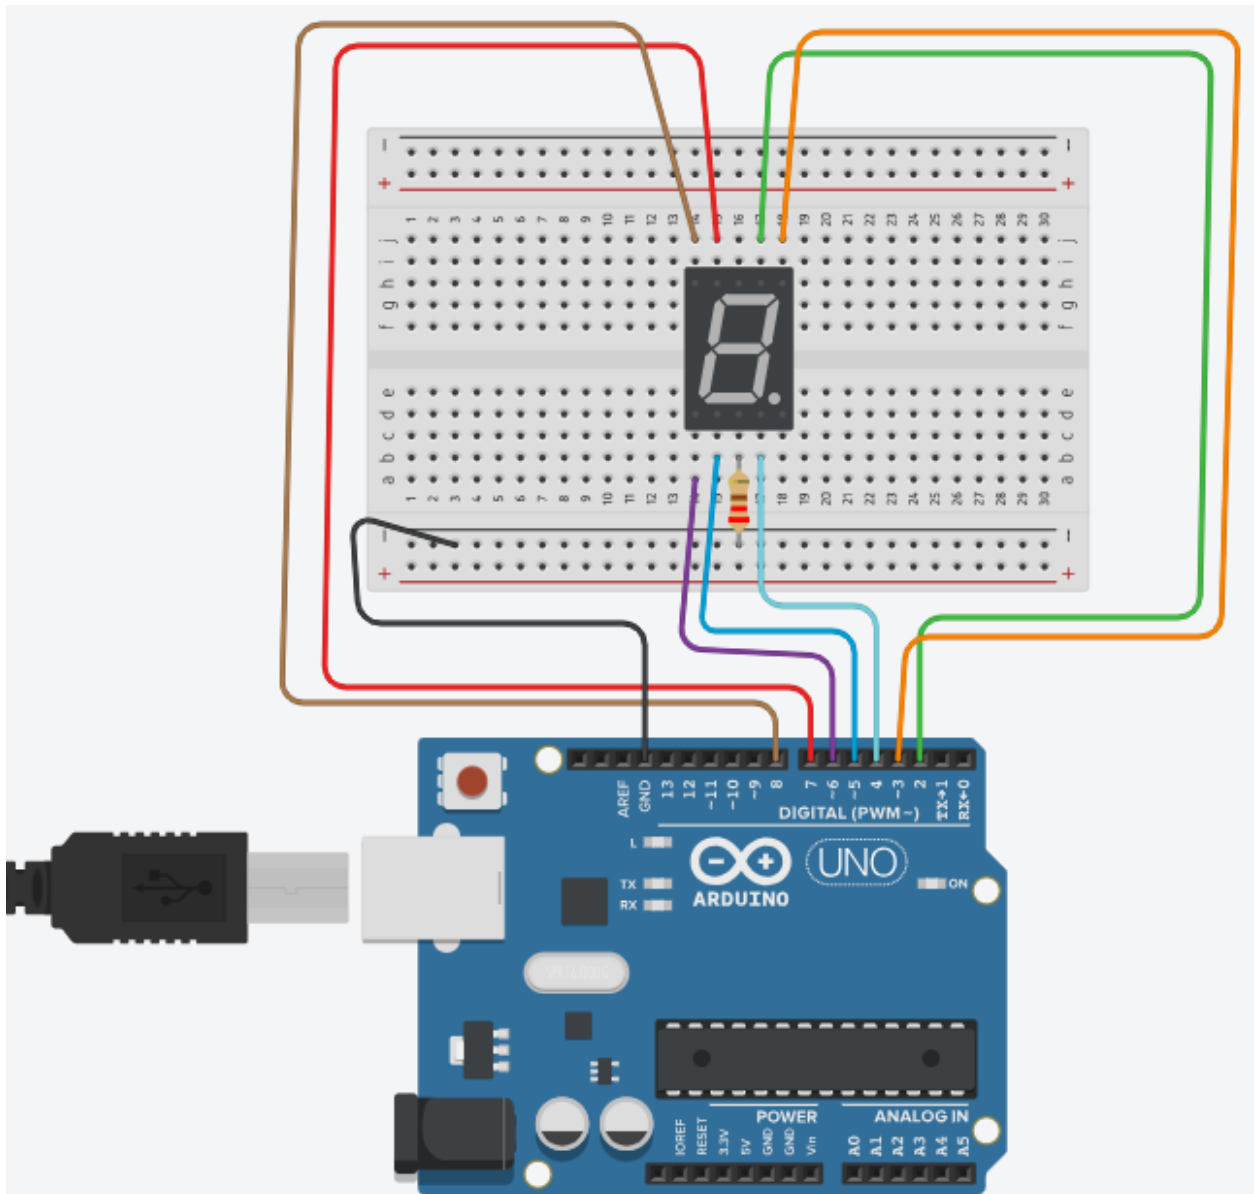

Figure 4.6 Circuit diagram of Seven Segment Display with Arduino
Step1: Prepare the circuit diagram according to figure 4.6